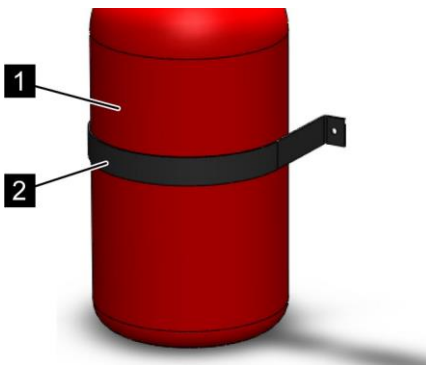

Fig. 61: Mounting extinguishing agent containers
2. ➤ Fasten extinguishing agent containers (Fig. 61/1) vertically on a wall or other structural elements with a clamp (Fig. 61/2).